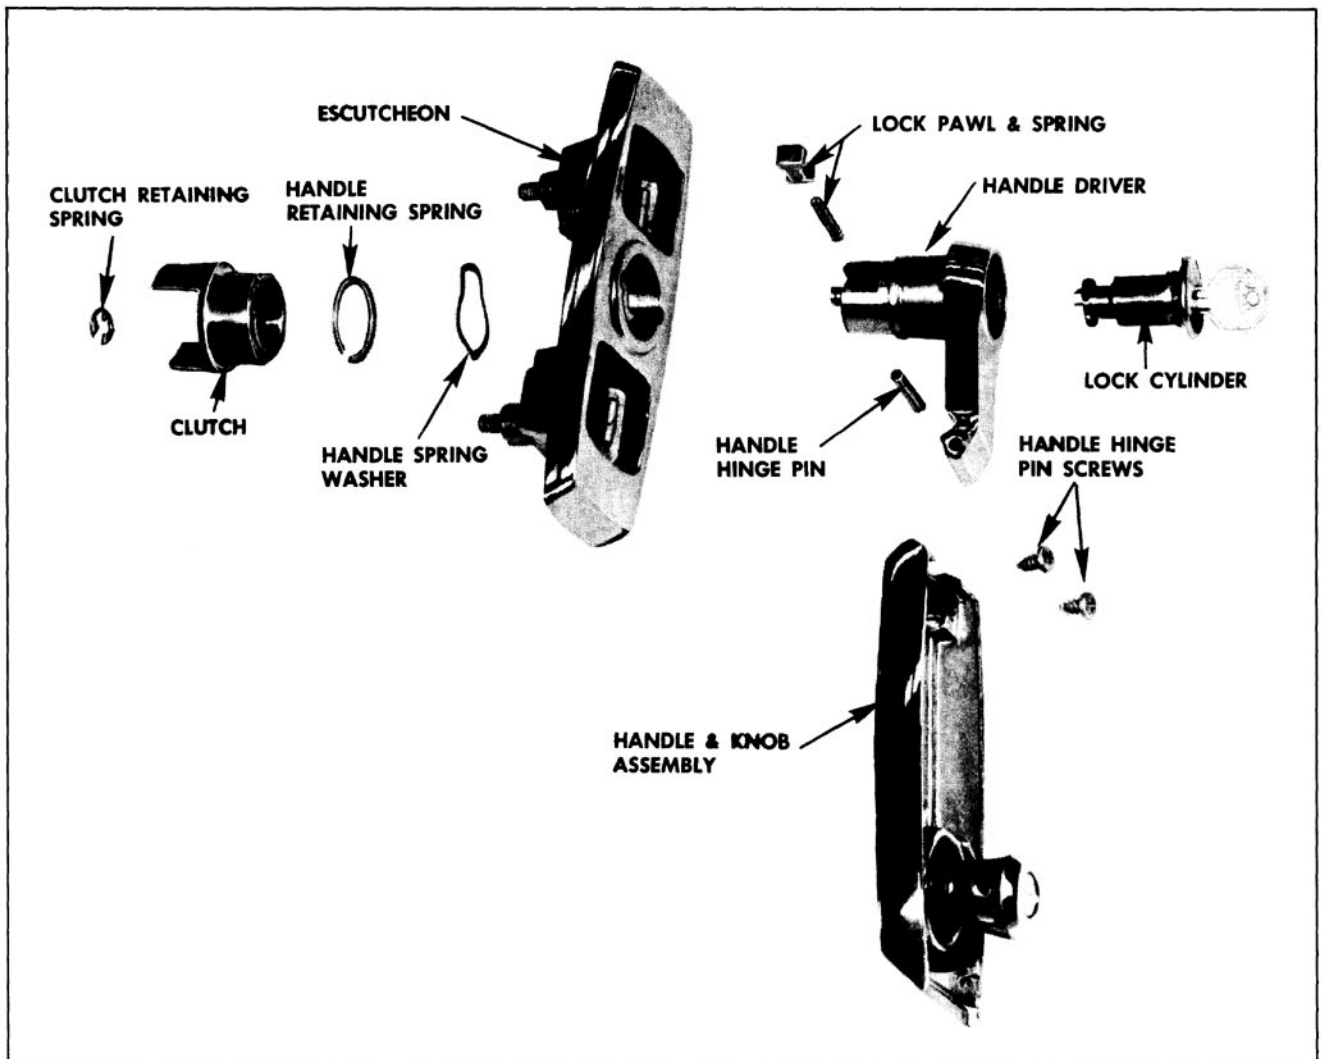

Fig. 16-478 Tailgate Outside Handle
- Remove clutch retaining ring and slide clutch off shaft of handle driver (Fig. 16-478).